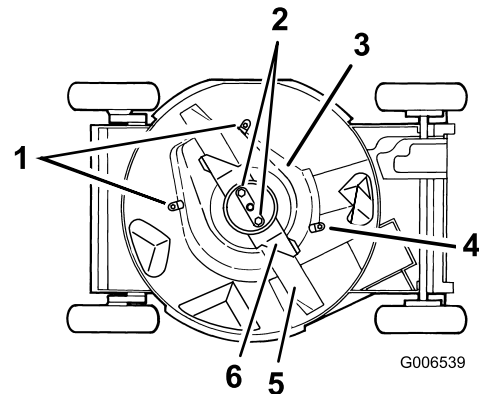

Figure 39
6. Loosen the tabs that secure the blade brake clutch shield to the housing by loosening the nuts or the bolts on the tabs (Figure 39). Rotate the tabs 180° to move them out of the way.